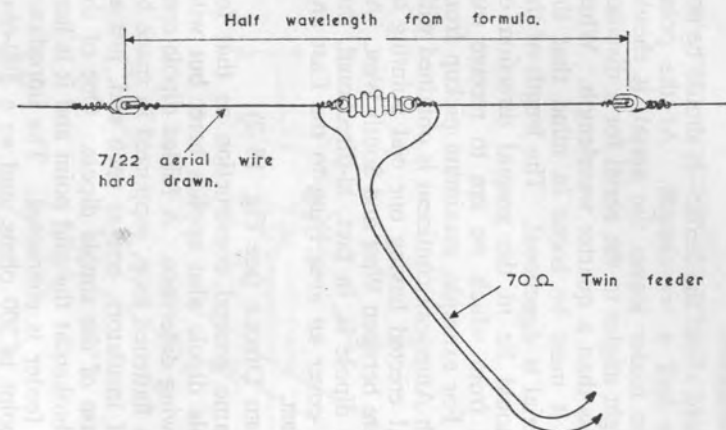

Fig. 18.1 Simple dipole.
(1) CENTRE FED DIPOLE (see Fig. 18-1)